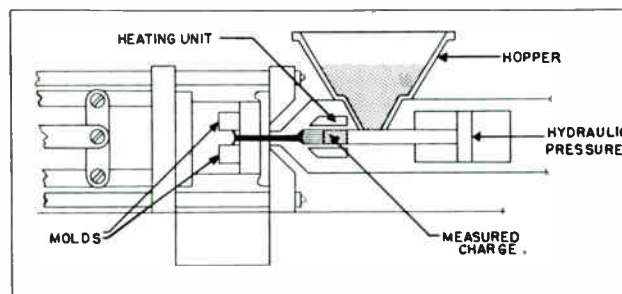

FIGURE 5
**Injection molding**, (Figure 5), is accomplished by feeding the material from a hopper, in measured quantities, to a heated cylinder and then forcing by hydraulic pressure the now viscous plastic through the sprues and gates into a closed mold. The presses used in this type of molding are usually automatically controlled and include means for closing the mold, holding it closed for a definite time, opening the mold, and ejecting the parts. The pressure and temperature normally used when injection molding the two commonly used plastics (polystyrene for portable cabinets, and methyl methacrylate for some dial scales) is between 10,000 and 30,000 pounds per square inch pressure and a temperature between 325-500 degrees Fahrenheit. This method lends itself to mass production due to an automatic press and the lack of curing time, since the piece is set in a matter of seconds.